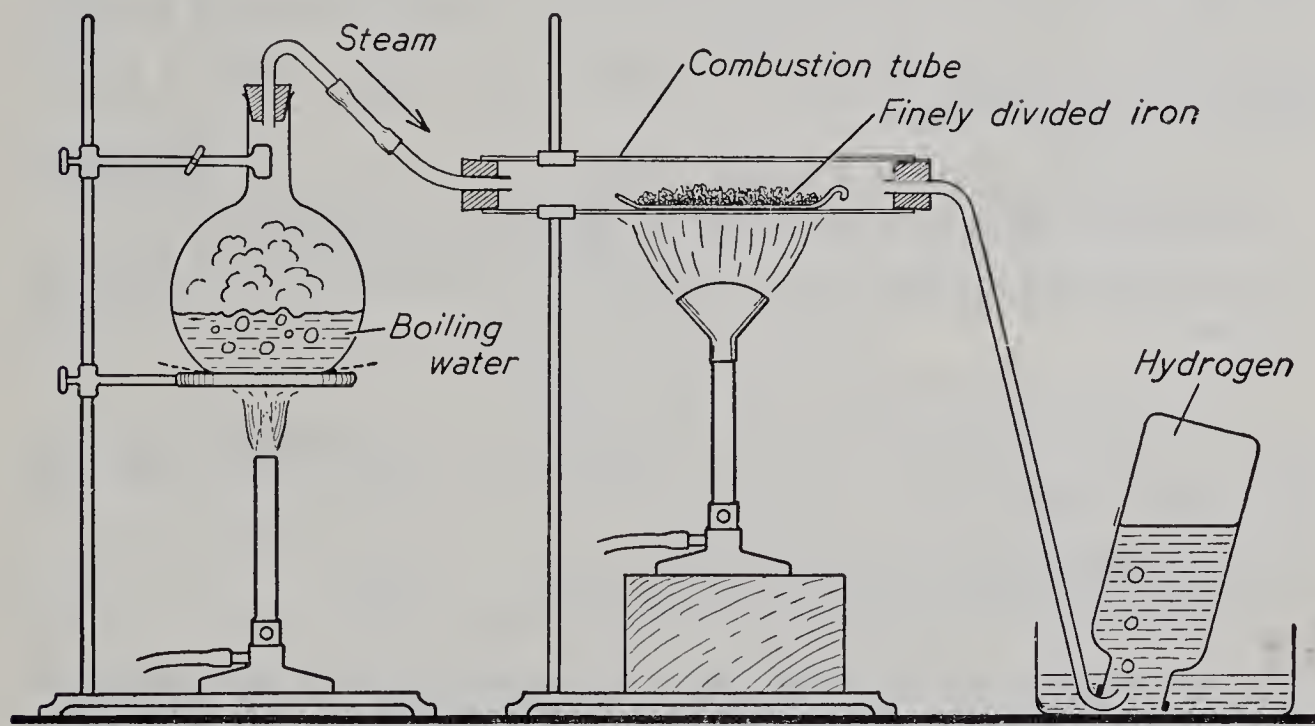

Fig. 30. Liberating hydrogen by the action of heated iron on steam.
1. Arrange the apparatus as shown in Fig. 30 and heat the finely divided iron as intensely as possible while the steam is passing through the combustion tube. Collect a gas bottle full of gas and test with a blazing splint.